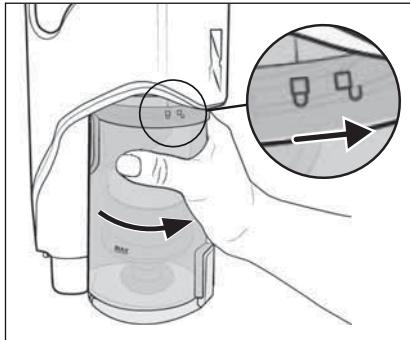

Fig. 25
- 8) Put the dust container ⑦ back into the appliance and turn it in the direction of the symbol (close) until it is firmly seated in the appliance (see Fig. 25).